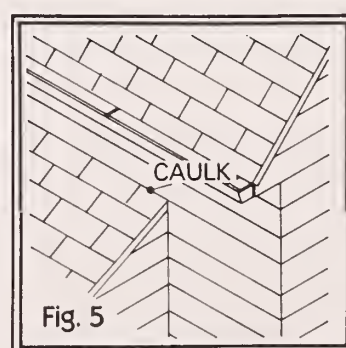

Fig. 5
- The joints where steps and porches meet the house (fig. 5).